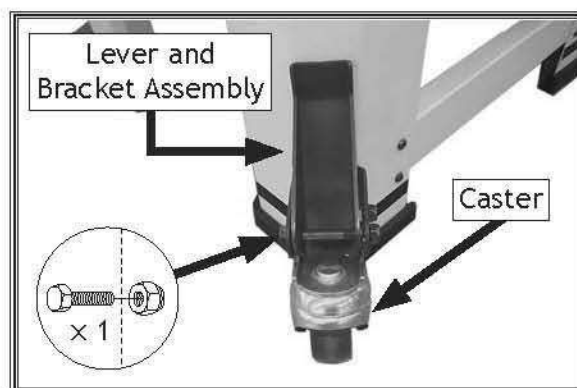

Figure 13. Caster installed on front right leg.
2. Install caster on each lever and bracket assembly (see **Figure 13**) with (1) M8-1.25 × 65 hex bolt and (1) M8-1.25 lock nut.